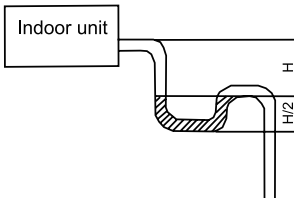

Fig.24
- (4). When the drain hose cannot keep a sufficient gradient, it is necessary to fit a riser pipe (field supplied) to it.
(5). If the air flow of indoor unit is high, this might cause negative pressure and result in return suction of outdoor air. Therefore, U-type water trap shall be designed on the drainage side of each indoor unit.(Fig.24)